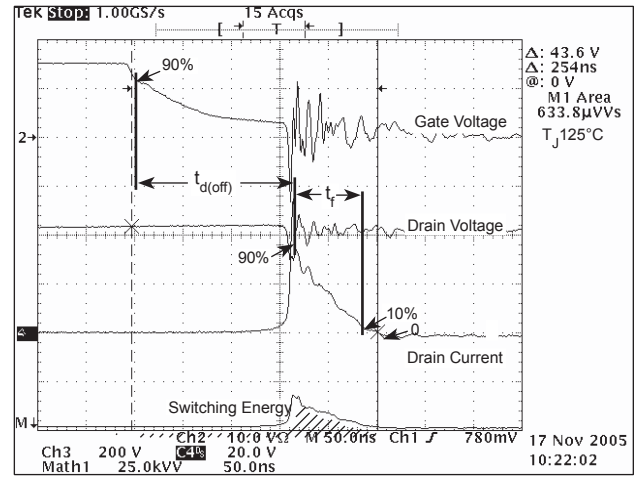

Figure 18, Turn-off Switching Waveforms and Definitions
- ① Repetitive Rating: Pulse width limited by maximum junction temperature
- ② Repetitive avalanche causes additional power losses that can be calculated as $P_{AV} = E_{AR} \cdot f$
- ③ Starting $T_j = +25^\circ C$, $L = 33.23mH$, $R_G = 25\Omega$, Peak $I_L = 11A$
- ④ Pulse Test: Pulse width < 380 μs , Duty Cycle < 2%
- ⑤ See MIL-STD-750 Method 3471
- ⑥ E_{on} includes diode reverse recovery. See figures 18, 20.
- ⑦ We do not recommend using this CoolMOS™ product in topologies that have free wheeling load current conducted in the body diode that is hard commutated. The current commutation is very "snappy", resulting in high dI/dt at the completion of commutation, and the likelihood of severe over-voltage transients due to the resulting high dv/dt .